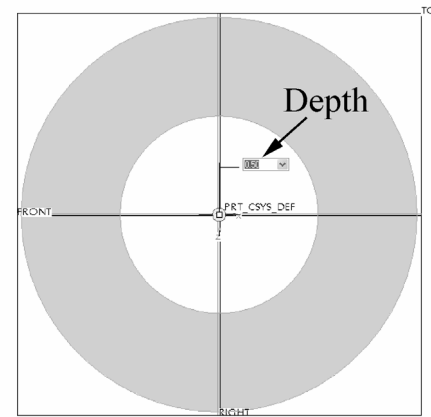

Fig. 2.12.
12. Define the depth.	The depth dimension is shown in two places – in the dash and on the part. Refer Figs. 2.12 and 2.13. Select the depth dimension → 0.5 → ENTER